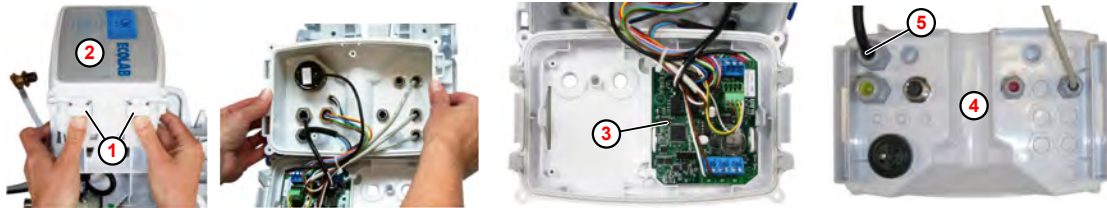

Fig. 9: Power supply
1. Press the catch ( Fig. 9 , ① ) on one side and pull the electronics module ② out of the fastening device.
- ⇒ The WWC board ③ with the power supply and electronic cables is located in the cover.
3. Turn over the electronics housing ④ .
- ⇒ The cable unions ⑤ are now freely accessible.